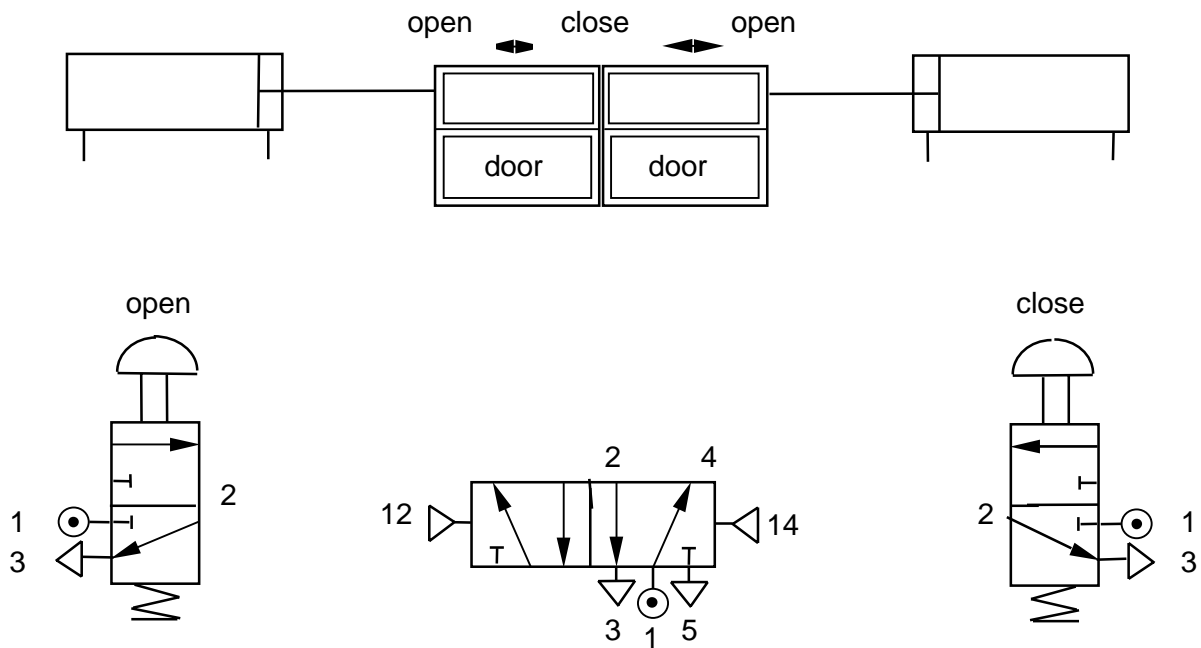

Fig. 6
- (a) Using the correct type of air lines, complete Fig. 6 to show how the circuit is to be piped up so that the “open” button will open both doors and the “close” button close both doors. Use all the components shown.